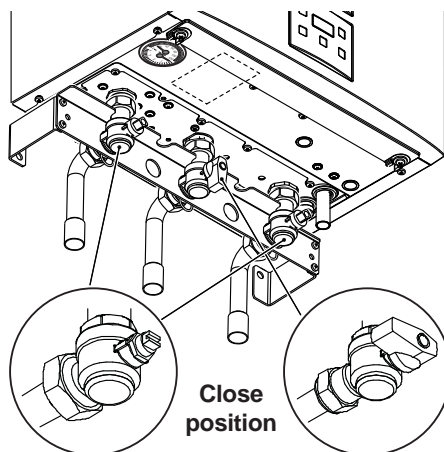

Fig. 2.11
- Shut off the gas supply cock and the valves for the water circuits fitted under the boiler Fig. 2.11;